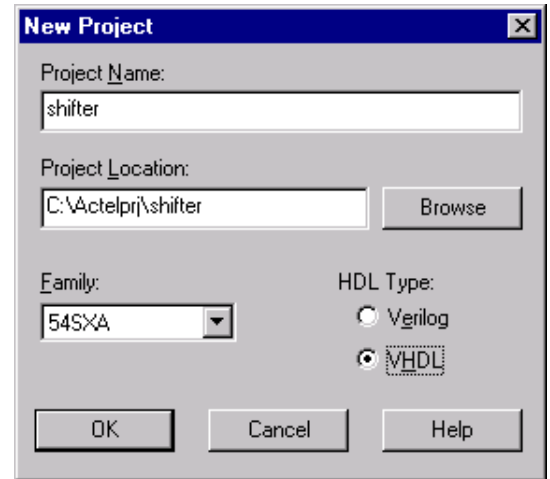

Figure 2 - Libero's New Project dialog box
2. From the File menu click *New*. The New Project dialog box appears, as shown in Figure 2. Enter the following in the New Project dialog box: